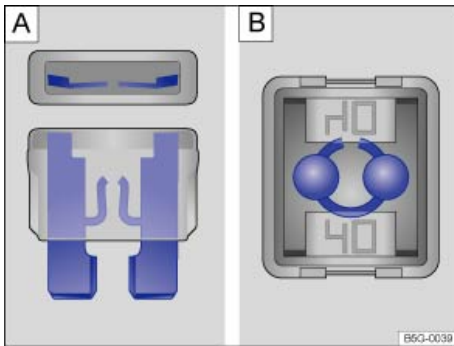

Fig. 186 Blown fuse: A: Blade fuse. B: JCASE® fuse.
- A blown *blade fuse* (ATO®, MINI®) has metal strips that have burned through, which you can see through the transparent housing from above and from the side ⇒ fig. 186 A.